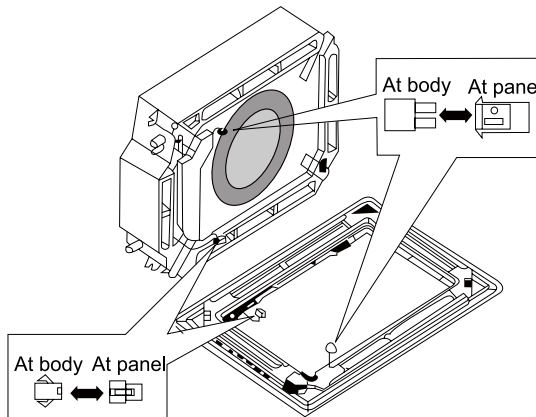

Fig.34
- (4). Wire the swing flap motor as shown in Fig.34.